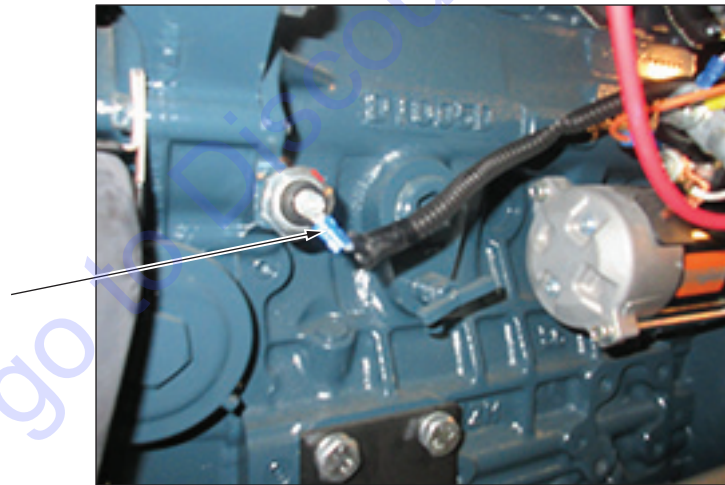

Figure 9 - Oil Pressure Switch Wire
- g. See Figure 9. Disconnect oil pressure switch wire.